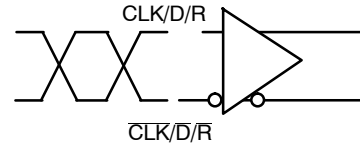

Figure 5. Differential Inputs Driven Differentially
**DIFFERENTIAL INPUT DRIVEN DIFFERENTIALLY** (Figures 5, 6 & 8)